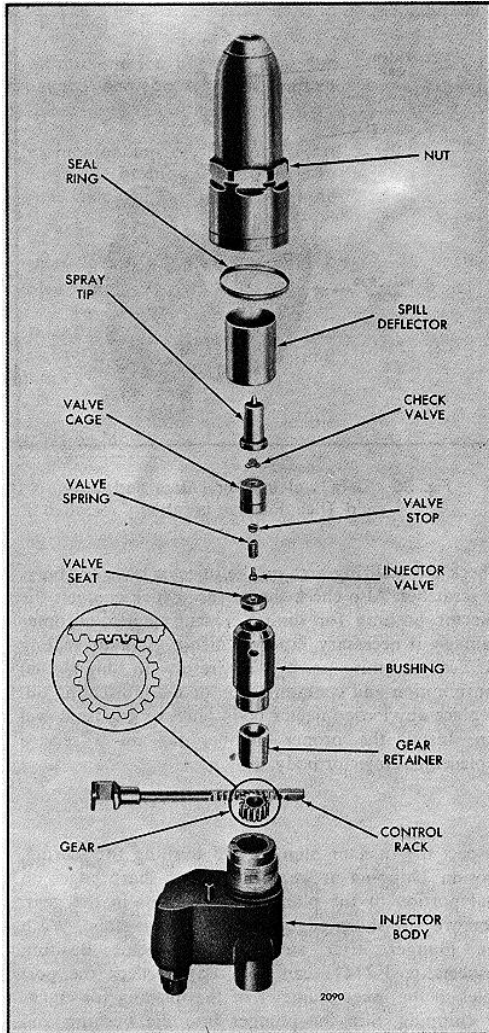

FIG. 31 Injector Rack, Gear, Spray Tip and Valve Assembly Details and Relative Location of Parts
6. Refer to Fig. 31 and remove the spill deflector and the seal ring from the injector nut.
Refer to Fig. 31 and note the drill spot marks on the control rack and gear. Then proceed as follows: